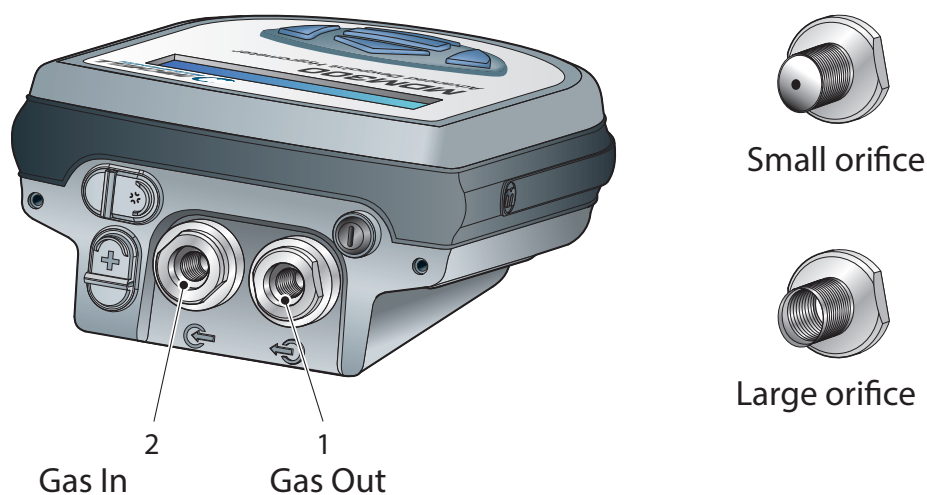

Figure 5 Gas Port Adaptors
(three provided - two fitted to the instrument - see *Figure 5*)
NOTE: On delivery the two large orifice adaptors are fitted into the instrument’s gas ports (1 and 2) as shown in *Figure 5*. One small orifice adaptor is provided as a loose spare in the accessory pack (see Section 2.5).
Sample gas connections are made via the Gas In (2) and Gas Out (1) ports located on the rear of the instrument as shown in *Figure 5*.